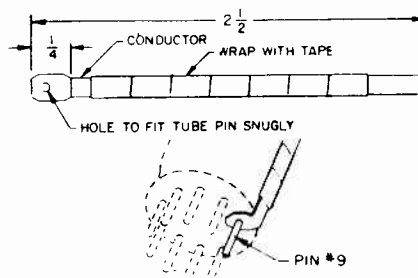

Figure 12 — Mixer Coupling Gimmick
* On tuner 470V119H01, Use Gimmick shown in Figure 12.